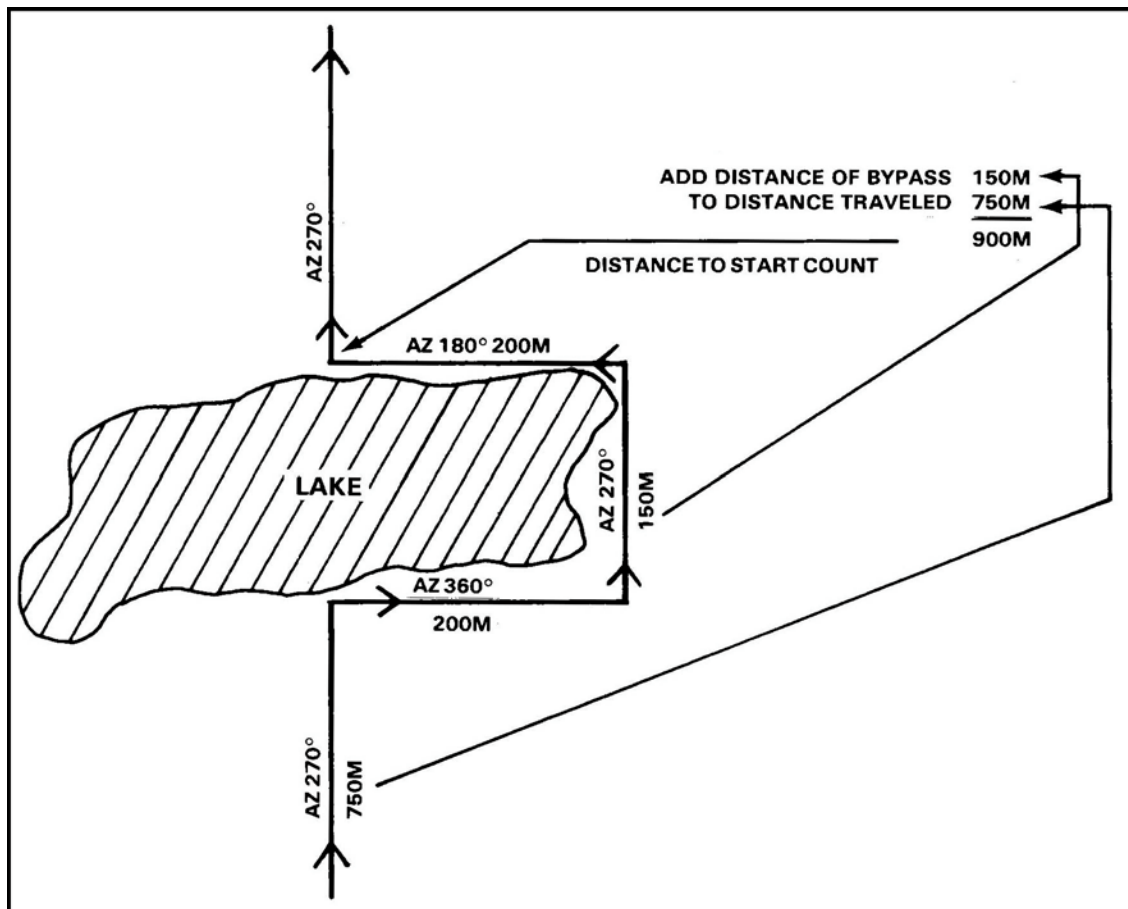

Figure 6. Bypassing an obstacle.
- (5) Convert the map distance to pace count.
- (6) Make a thorough map reconnaissance of the area between the start point and the finish point.
- If you should encounter an obstacle, you may have to detour around it (Figure 6). To do this, complete a series of 90-degree turns until the obstacle is bypassed and you are back on the original azimuth.